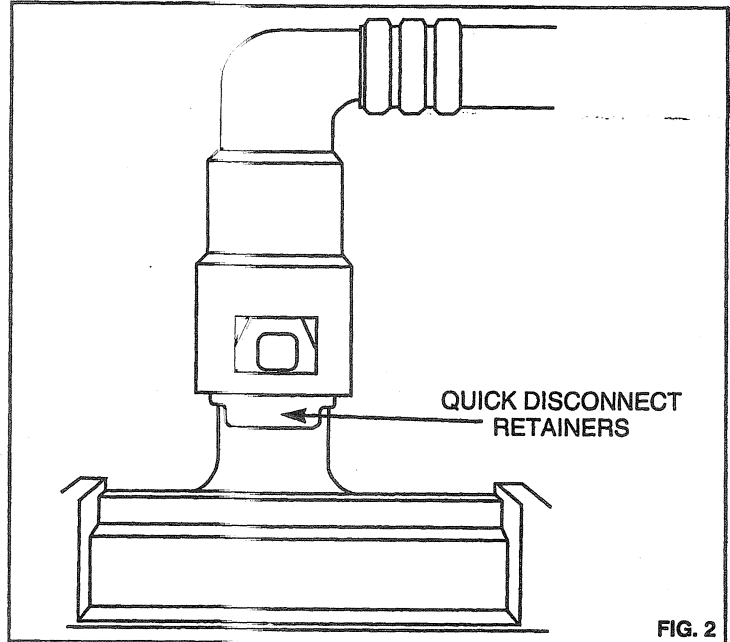

FIG. 2
A) Disconnect the fuel lines from the tank unit by depressing the quick disconnect retainers. (See Fig. 2)